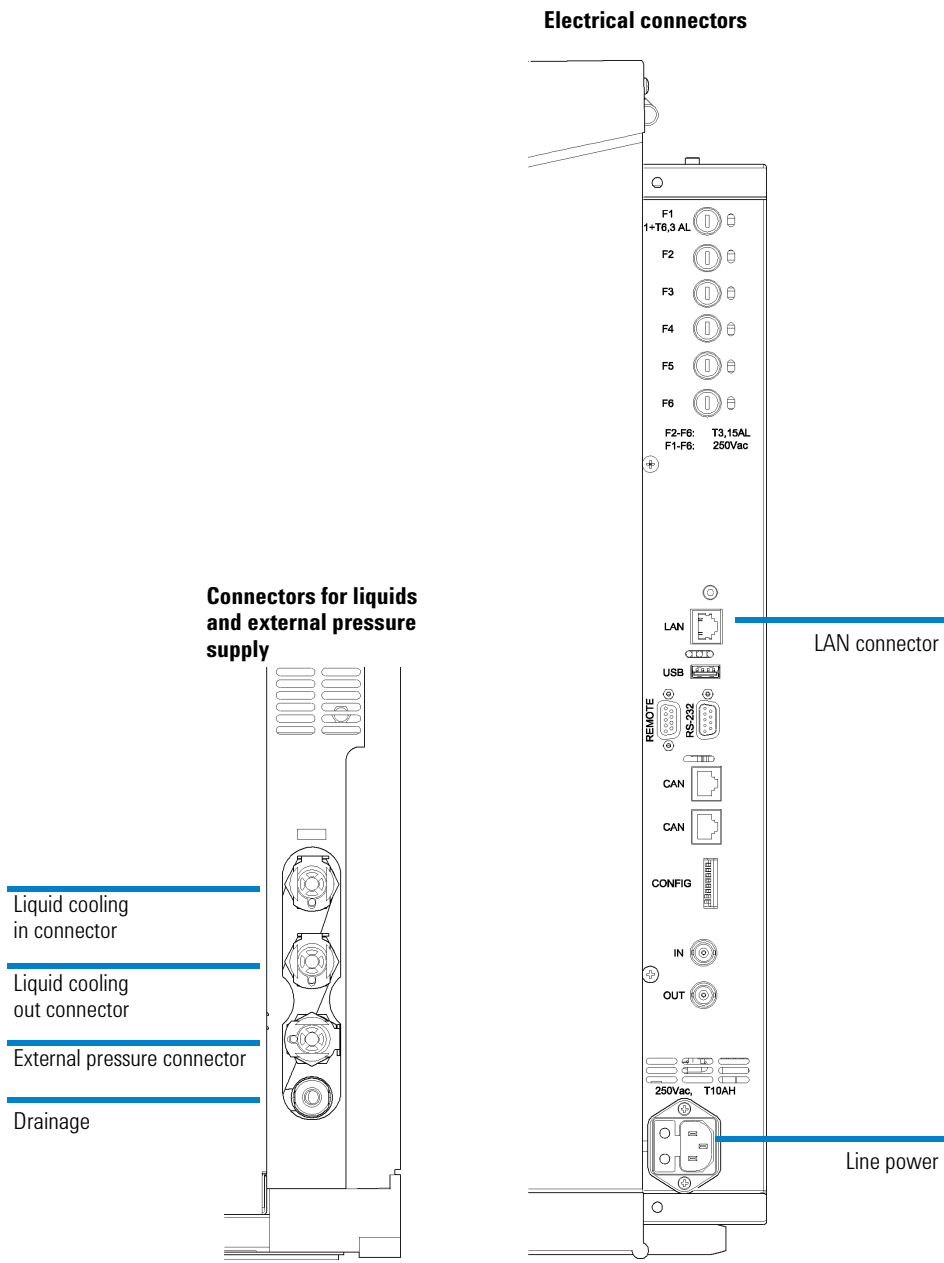

Figure 2 Connections on the rear of the instrument
- 2** Connect the following cables as shown in Table 2 and in Figure 2.